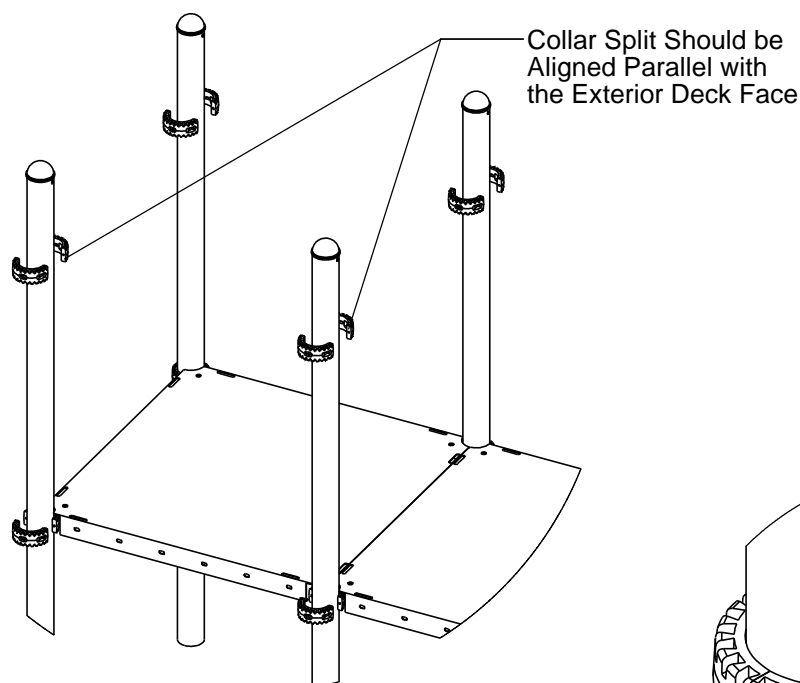

FIGURE 3
(C) The Collar splits should be aligned parallel with deck faces and should always be parallel to the collars of the same component. (See Figure 3)
Locate and mark the position of the collar on the support post, place in the correct position and attach as shown in Figure 1 using the tools shown in Figure 2. (See Figures 3 and 4 and Notes A, B, C and D)